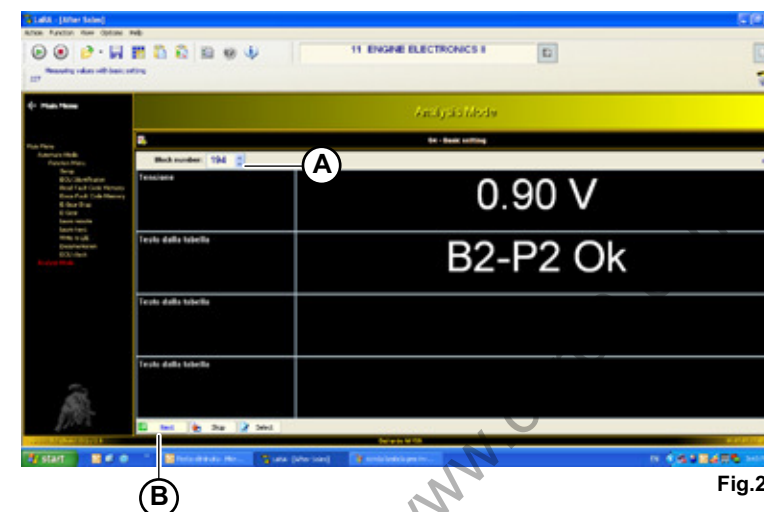

Fig.24
- Select routine 194 inside the block number (**A-Fig.24**).
- Start the connection () and press the start push-button (**B-Fig.24**).